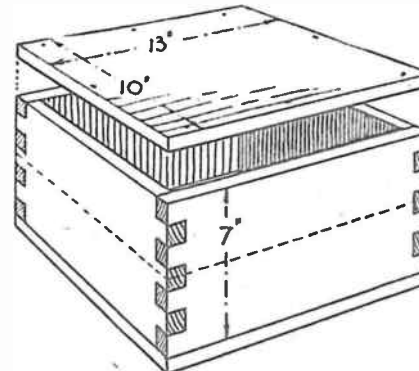

Fig. 1
In this case, it will be seen that two boards 13ins. long and two 8 1/2ins. long will be wanted, provided $\frac{1}{2}$ in. thick stuff is used. If the top and floor of the box cannot each be got from the one piece of 10ins. wide wood, then two 5in. pieces can be jointed and glued up and two small cross battens added to make a strong job. These battens will be screwed to the underside of the lid, of course, and to the underside of the floor, the latter battens being so spaced that they come on the inside of the leg rails. That is, they will be placed 1 1/2ins. or so in from the edge of the floor, as seen at (A) in Fig. 3. The top and floor will be countersunk screwed to the open frame as Fig. 1 shows, glue being used in addition to the screws, of course.
The next process will be to saw the box in half on the lines shown dotted in Fig. 1, each portion then being 3 1/2ins. deep with four of the pin joints being cut as seen. It will, doubtless, be necessary to make up a jig of some sort to hold the box rigid while the cutting
It is a plain box of four sides and a top and floor all of $\frac{1}{2}$ in. or $\frac{3}{4}$ in. thick wood. Two boards 13ins. long, and two 10ins. long and all 7ins. wide are wanted for the sides, which should, for sake of strength, be pin-jointed at the corners as shown in Figs. 1 and 2. The wood being 7ins. wide,